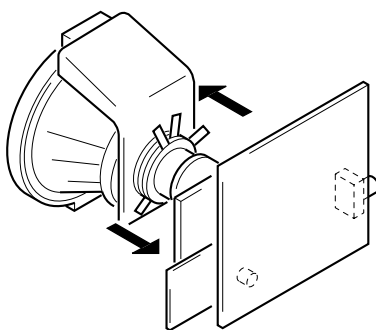

Fig. 4-2
4. Move the deflection yoke to the rear and adjust with the purity control so that the green is at the center and the blue and the red take up equally sized areas on each side. (See Figures 4-2 through 4-4.)
5. Move the deflection yoke forward and adjust so that the entire screen is green. (See Figure 4-2.)